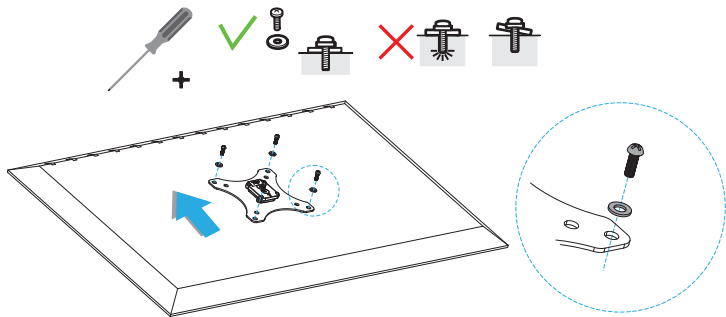

Figure 14
3. Insert the appropriate **M-Type Screws** (x 4) through the **Washers** (x 4), **VESA Monitor Mount**, and into the back of the **Monitor**. (Figure 14)
- Insert the appropriate **M-Type Screws** (x 4) through the **Washers** (x 4), **VESA Monitor Mount**, **Spacers** (x 4) and into the back of the **Monitor**. (Figure 14)